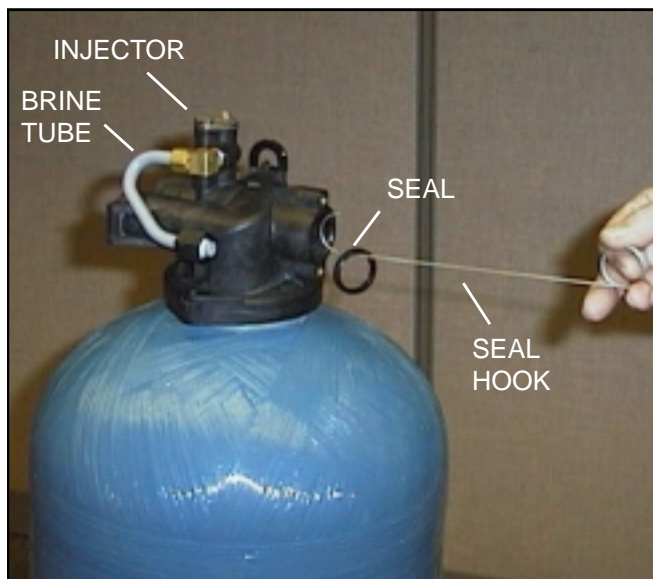

Figure 2 Removing Special Tool From Valve Body After Inserting Seal
6. Remove the seal first using the wire hook with the finger loop (see Fig.2).